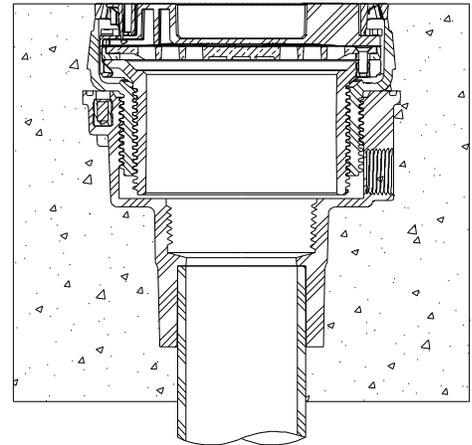

Fig. 4
4. Pour finish floor slab flush to the top of the rough-in cover. See Fig. 4